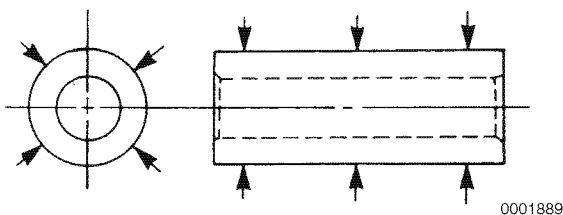

Figure 6-65
7. Measure the outside diameter of the wrist pin in three places and at 90° (**Figure 6-65**). See *Piston on page 6-10 for specifications*. Record the measurements.